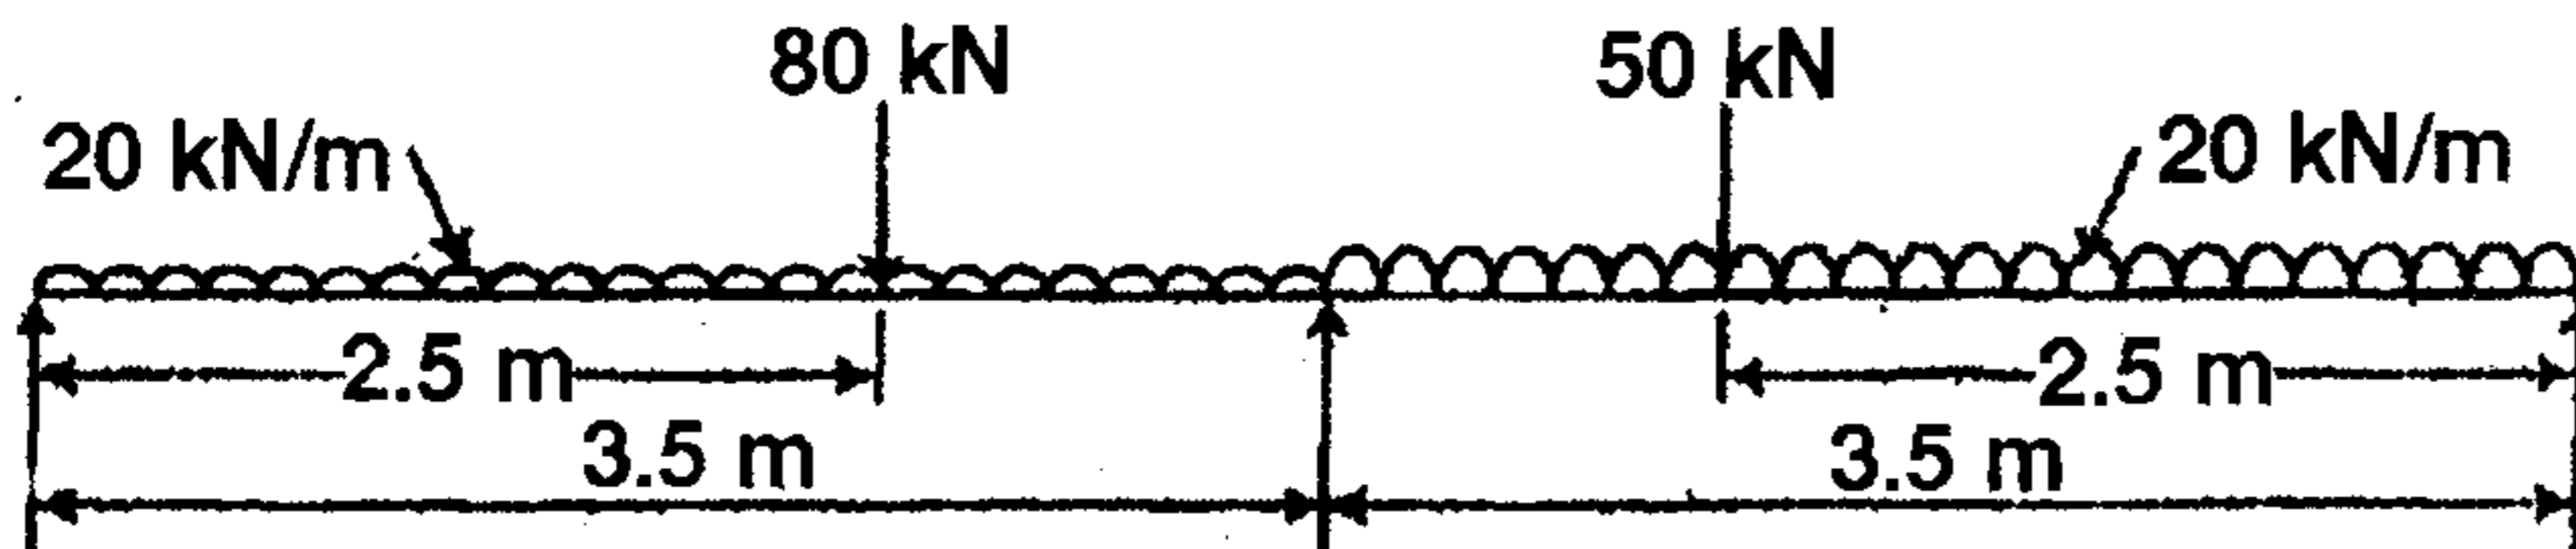

Figure 1
12. A continuous beam is subjected to loads as shown in Figure 1. Assume a load factor of 1.6 and design its section.